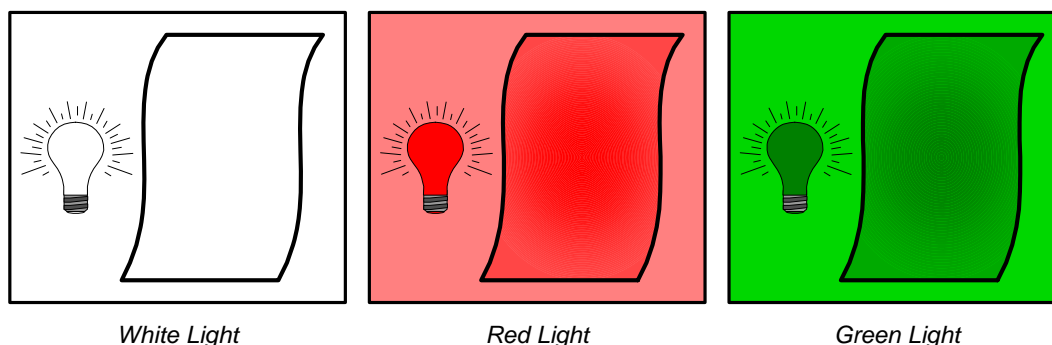

Figure 10. Effect of Illumination on Reflection with Constant Reflectance: Case 1
- Figure 10 illustrates the effects of different wavelength illumination on the same sheet of white paper, where the reflection changes although the reflectance does not.